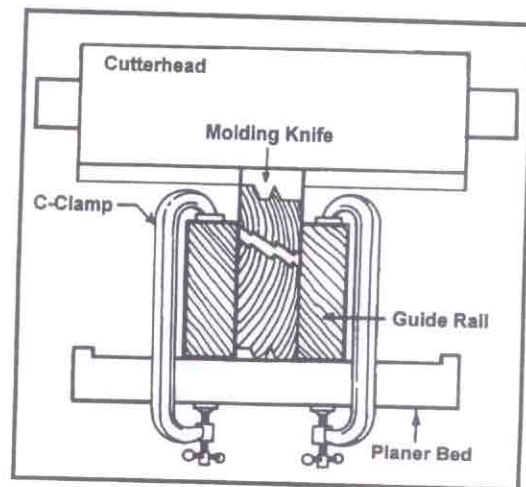

Fig. 14
6. Clamp the guide rail to the bedboard using "C" clamps on both ends. (This can also be done by nailing with small gauge finish nails. Keep in mind the guide rails must be positioned properly before nailing. Be careful with nail length; do not nail through the bedboard and into the table). (Fig. 14)